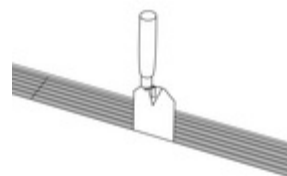

Fig. 3
- Initially, position Willseal 250 just above the deck surface, once the material is partially expanded in the joint it can then be installed to the required depth 6mm below the surface of the joint using a putty knife or margin trowel (Fig. 3).